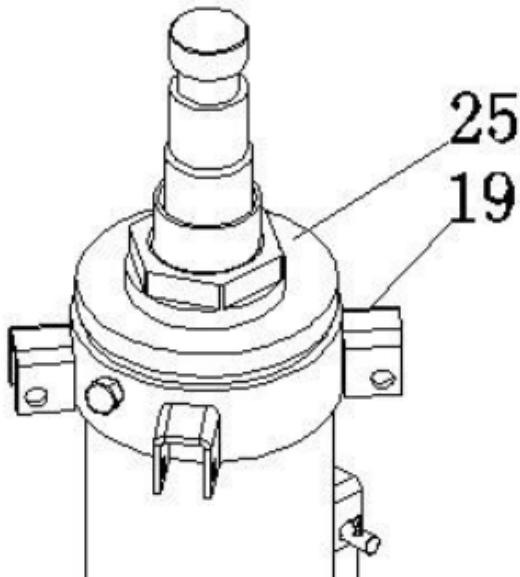

Figure 1
3. Secure caster with foot brake (53) and regular caster (6) onto the leg base (48) by using nut (50,) lock washer (51,) and washer (52.) Secure the other 2 casters on the opposite leg base using the same hardware.
4. Place the hydraulic pump (36) in an upright position. Secure the legs (48) to the pump by using washer (54,) lock washer (55,) and bolt (56.)
5. Attach the adjusted support rod (24) to support ring (19) by using bolt (21,) lock washer (22,) and nut (23) and make the upper end of support ring (19) close to the lower end of nut (25.) (see Figure 1.)